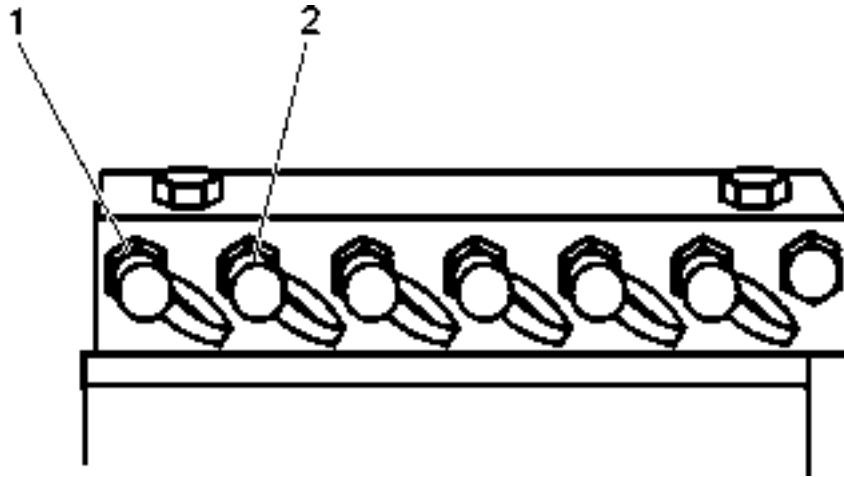

Fig. 3.2. Diagnostic Center – Tow and Pressure Check Ports
The diagnostic center (Fig. 3.2) has a quick couplers R_B and L_B for application of external hydraulic pressure to the LH and RH brake spools to release them prior to towing as described in the procedure specified below.
2. Open the diagnostic center cover on the LH side of the machine and connect a lubricating fitting and pressure gauge to one of the quick couplers (port 1 or 2, Fig. 3.2).